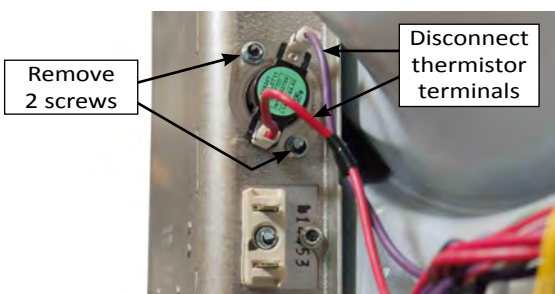

Figure 2
4. Disconnect the two terminal wires from the high limit thermistor (see Figure 2).
5. Remove the two (2) 1/4" hex-head screws securing the thermistor to the inlet duct (see Figure 2).